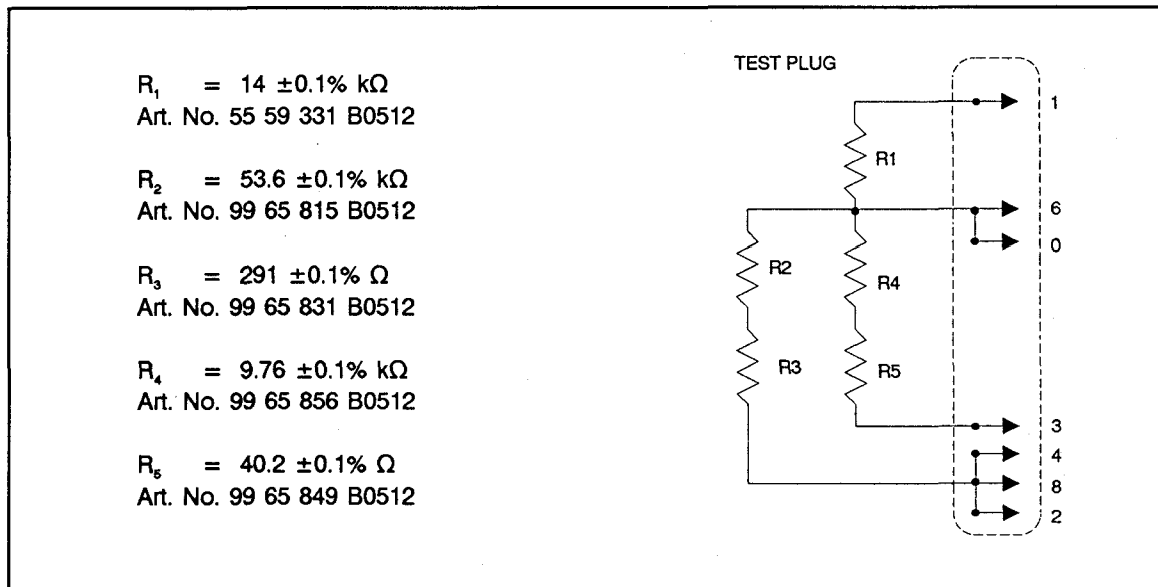

Figure E-3. Cardiac Output Test Plug Assembly
E-2. Cardiac Output Test Plug: Construct a cardiac output test plug, using a SIEMENS Art. No. 73 68 640 E2260 plug or equivalent. Refer to Figure E-3.
1. Connect and solder the resistor(s) as shown in Figure E-3 for the specified test temperature.